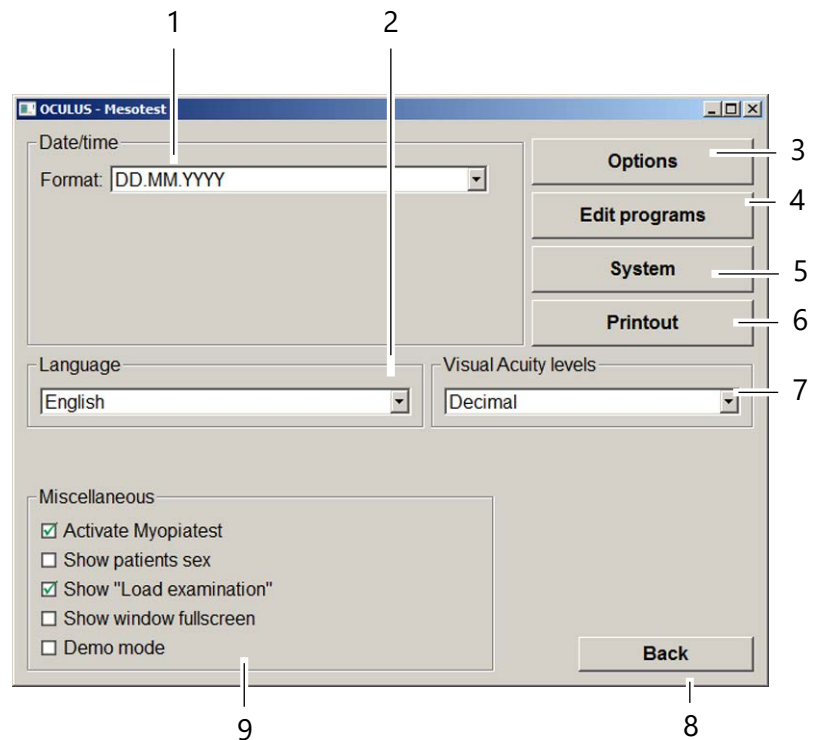

Fig. 10-7: "Settings" screen
"Date / Time" box (*fig. 10-7, page 39*):
"Language" box (*fig. 10-7, page 39*):
“Visual acuity data” box (fig. 10-7, page 39):
“Miscellaneous” box (fig. 10-7, page 39):
"Miscellaneous" box (fig. 10-7, page 39):
- ➔ Press the [Edit programs] button (fig. 10-7, page 39).
- ➔ Press the [Result] button (fig. 10-7, page 39). On this screen, you can enter data about yourself or your office address, and add your own logo to the results printout.
- ➔ Press the [Back] button (*fig. 10-7, page 39*).